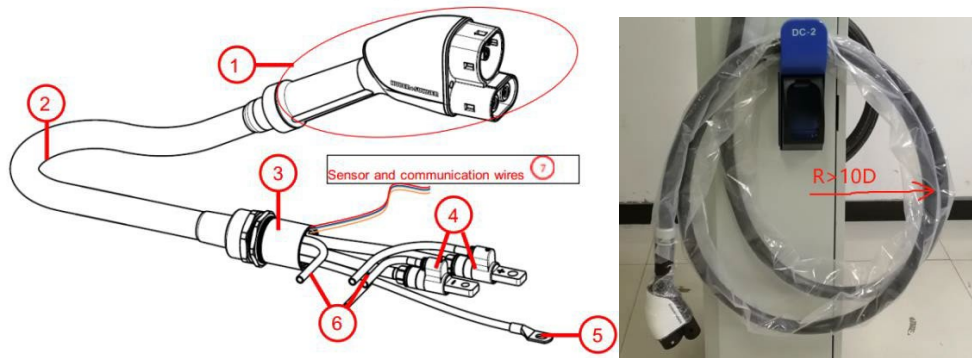

Figure 6.2 Schematic diagram of CCS1 liquid cooling connector
- The cable system consists of connector no.1, cable no.2, cable fixture no.3, terminal to power supply no.4, ground wire no.5, pipes for coolant no.6, sensor and communication wires no.7. The cable system is fully assembled and only must be connected to the charging station. As shown in Figure 6.2 below: